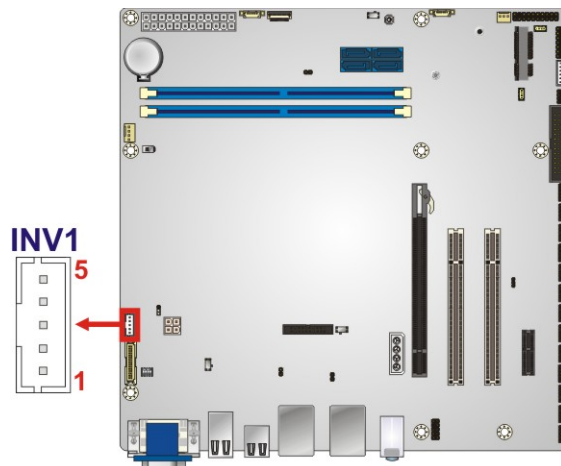

Figure 3-6: Backlight Inverter Connector Location
- CN Location:** See **Figure 3-6**